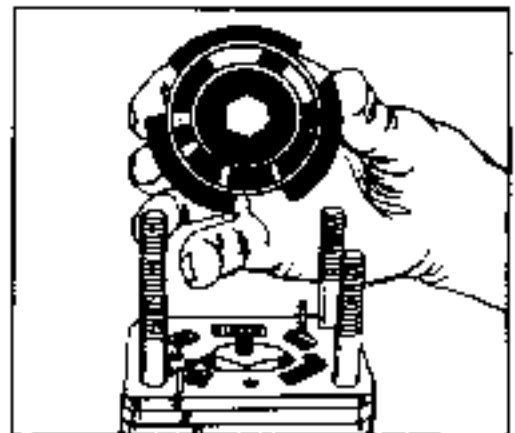

FIGURE 12.
Inspect the slot edges and ground surfaces. If the valve plate (13) shows nicks or scoring or the edges are not sharp, it must be replaced. See figure 12.